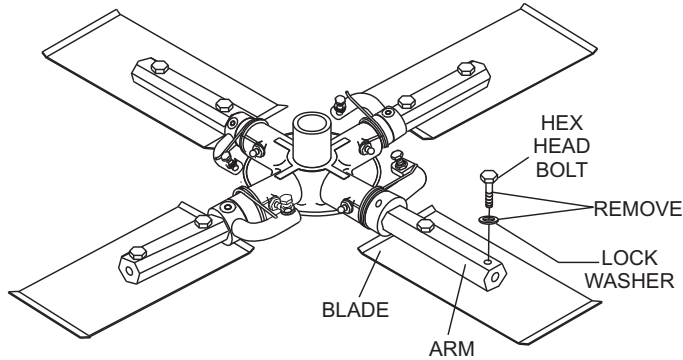

Figure 46. Trowel Blades
1. Remove the trowel blades from the trowel arm by removing the three hex head bolts (Figure 46) from the trowel arm. Set blades aside.